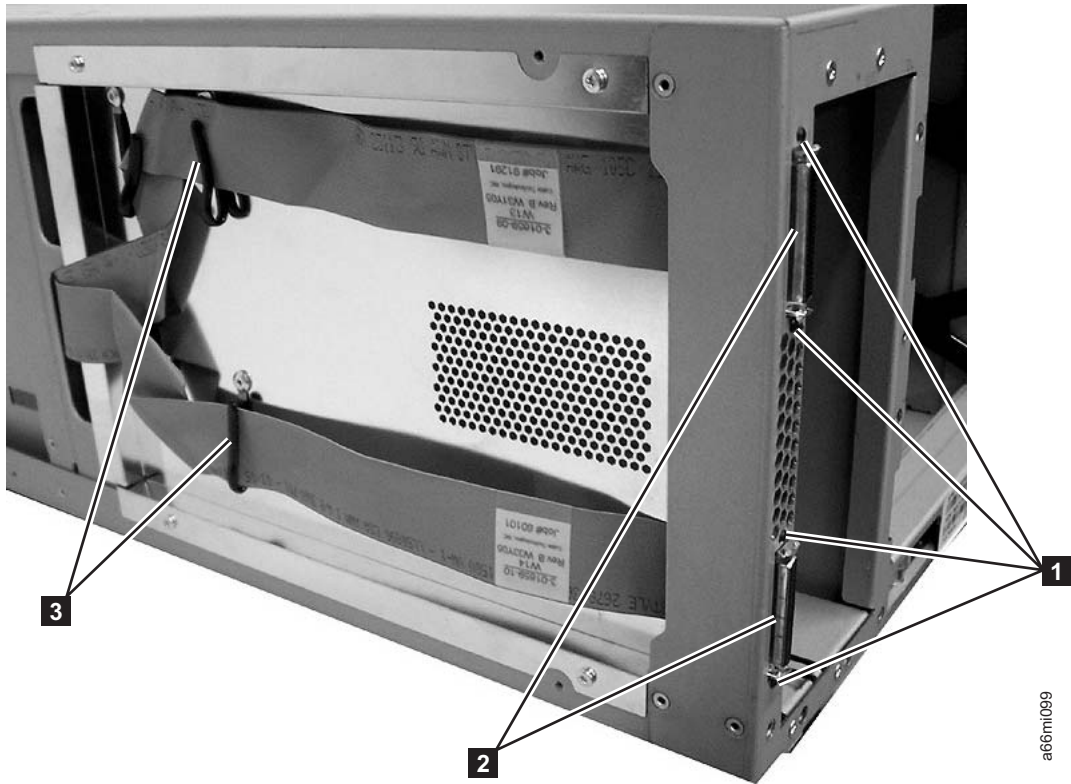

Figure 8-78. D-shell connectors and flat cables, side cover removed
- c. Remove the terminator(s) from the 2 D-shell connectors (**2** in Figure 8-78 on page 8-80) on the back of the control module, if necessary.
- d. Remove the 4 T6 Torx screws (**1** in Figure 8-78) holding the 2 D-shell connectors (**2** in Figure 8-78) on the back of the control module. Carefully remove the 2 flat cables (**3** in Figure 8-78) and D-shell connectors from under the cable retainers on the side of the enclosure.